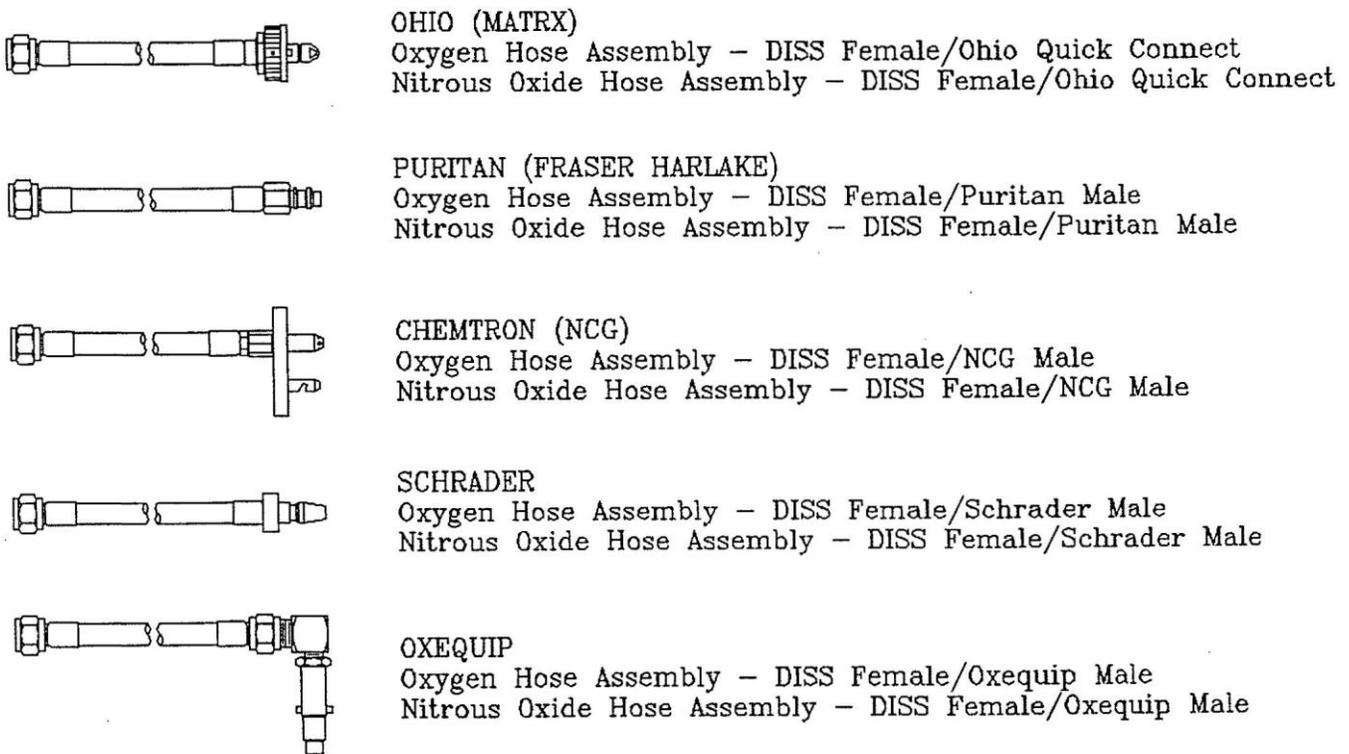

Figure 20
1. DISS to Quick connect male fitting hoses (oxygen hoses only shown, see fig 20).